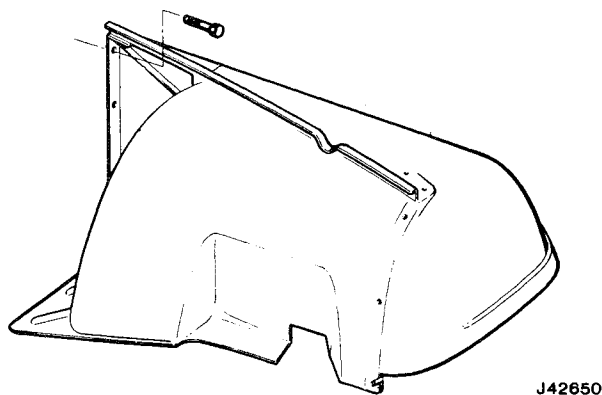

Fig. 3F-12 Front Fender—CJ Models
- (1) Remove or disconnect all items attached to apron of fender.
- (2) Disconnect electrical connector at side marker lamp.
- (3) Remove rocker panel moulding, if equipped.
- (4) Remove bolts and washers attaching fender and brace to dash panel (fig. 3F-12).
- (5) Remove bolts, washers, and nuts attaching fender to radiator grille guard panel.
- (6) Pull fender outboard and lift from vehicle.
- (7) Position fender on vehicle and install fender-to-